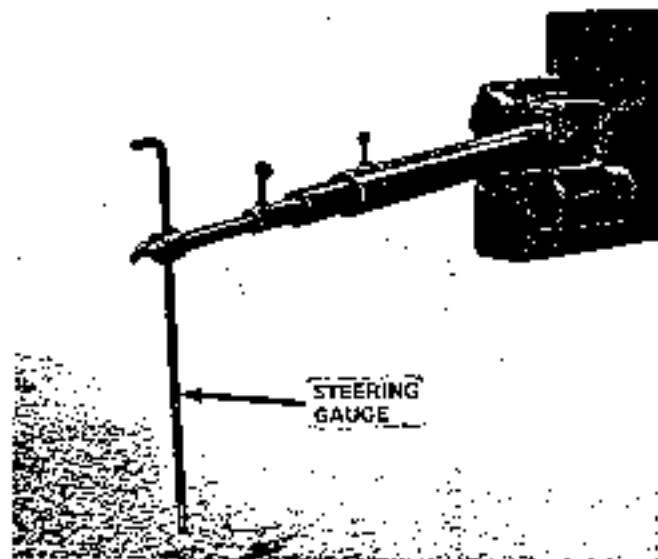

FIGURE D-1 - Steering Gauge
1. Drive machine into position to start laying. Adjust the steering guide to line up with edge of the roadway, grade line or whatever line has been established for the edge of the mat. (Refer to Figure D-1).